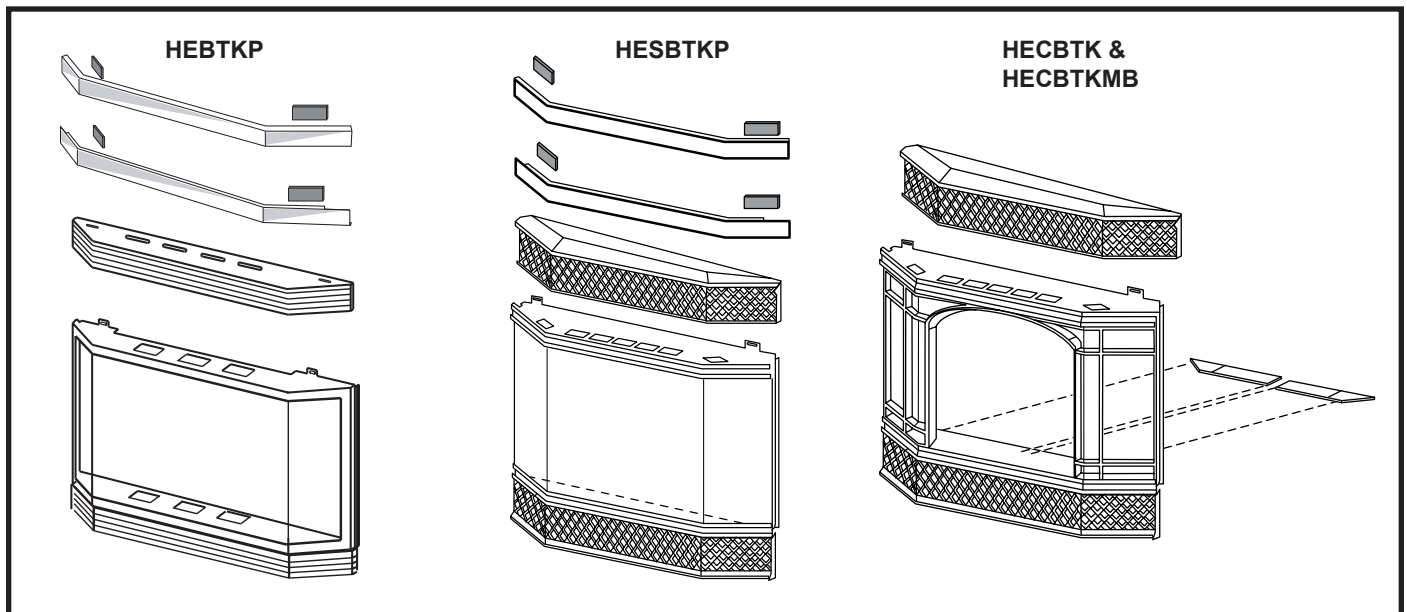

Fig. 48 Optional bay front windows available for use on the RHEDV32.
3. Install the two (2) ceramic pieces inside the bay window. (Fig. 48)
4. Install the two ceramic pieces inside the bay window. (Fig. 48)